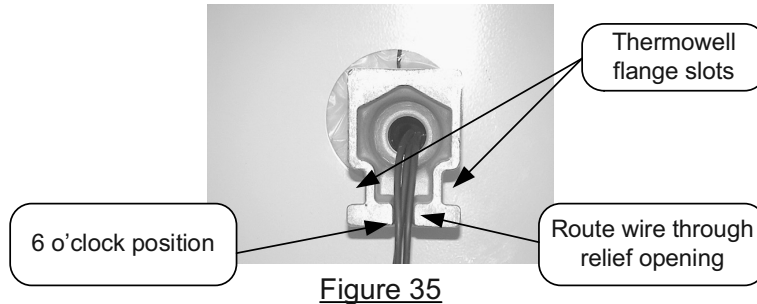

Figure 35
Step 1. Install threaded end of thermowell into water heater. When tight, be sure thermowell flange is positioned so that thermowell relief opening is in the 6 o'clock position for proper control alignment (see Figure 35).
Step 2. Route lead wires through the relief opening (see Figure 35).